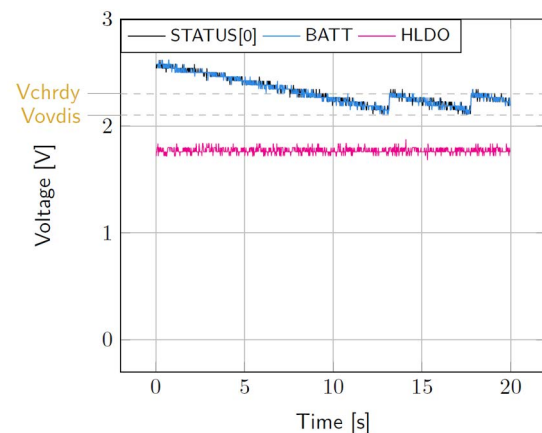

Figure 5: Switching from **SRC** to the primary battery
- BATT**: Voltage decreases as the system consumes the power accumulated in the storage element. The voltage reaches **Vovdis** and then rises again to **Vchr** as it is recharged from the primary battery (see Figure 5).
- STATUS[0]**: Never de-asserted as the LDOs are still functional (see Figure 5).
- HLDO**: Stable and not affected by switching on the primary battery (see Figure 5).